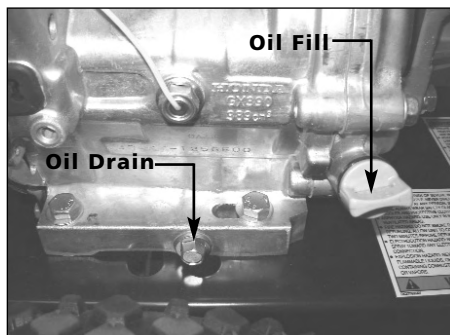

Figure 15 - Oil drain and fill locations
2. Locate and remove the engine oil drain plug (See Figure 15).